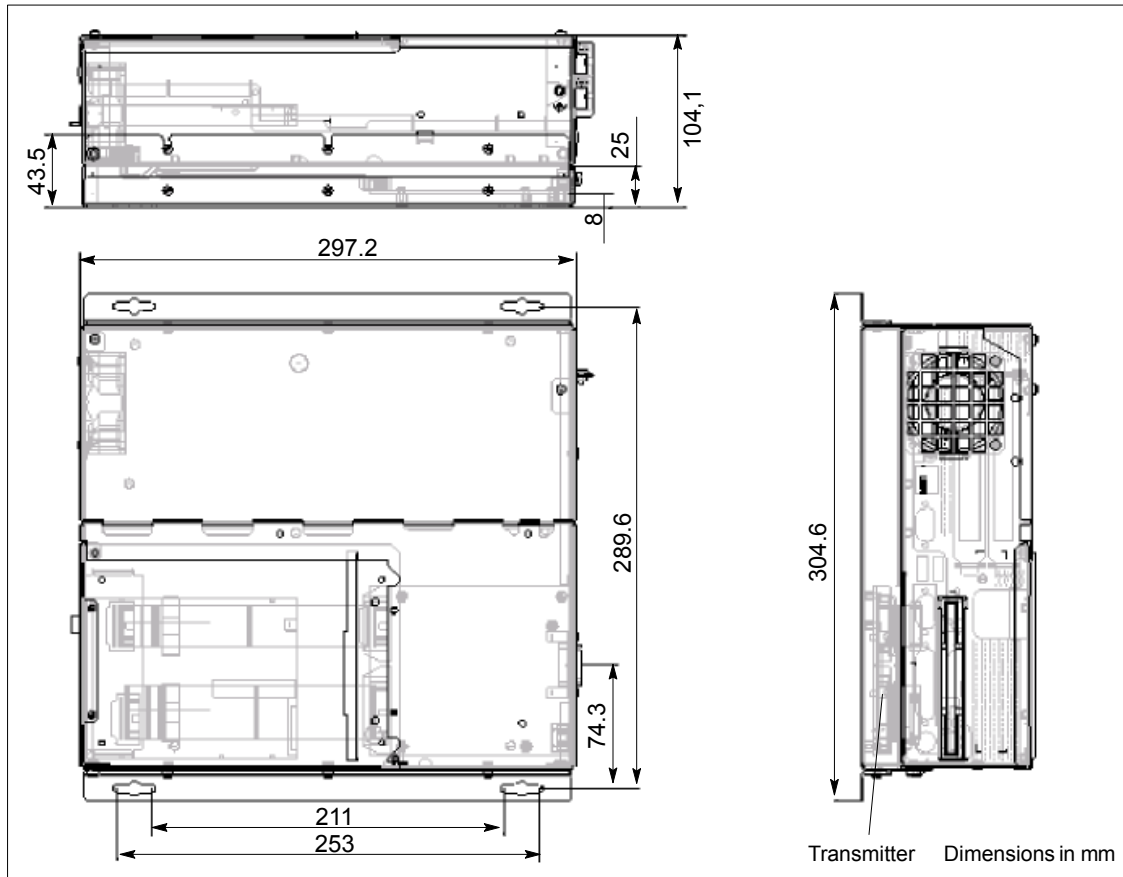

Figure 8-2 Dimensions computing unit PC 670 without CD-ROM drive in distributed configuration including transmitter
Figure 8-2 shows the dimensions of the PC 670 computing unit with transmitter.
- Dimensions: see Figure 8-2.